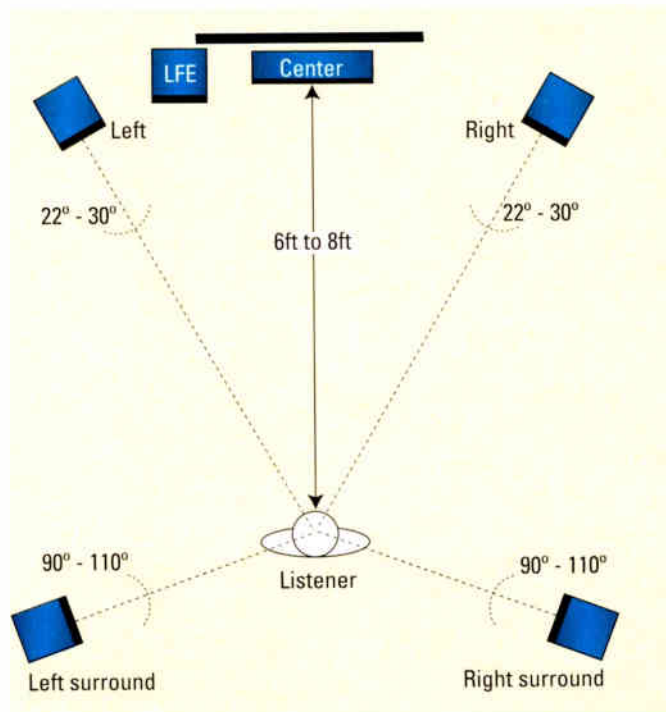

Figure 1. Shown here is the speaker placement for 5.1 audio.
Professionally, it's called 5.1 audio, and it consists of six separate audio channels — Left (L), Right (R), Center (C), Left surround (Ls), Right surround (Rs) and the Low Frequency Effects (LFE) channel. (See Figure 1.) These six audio channels are used for DVD, cable, satellite and broadcast DTV audio.